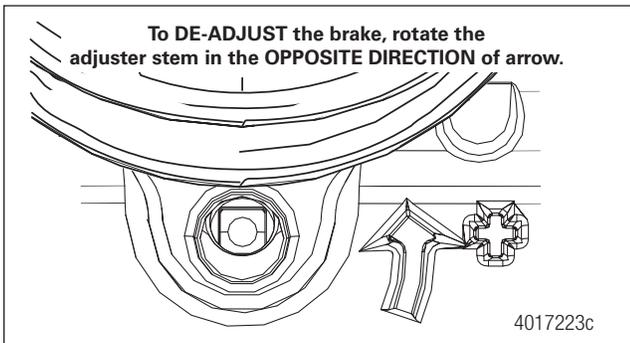
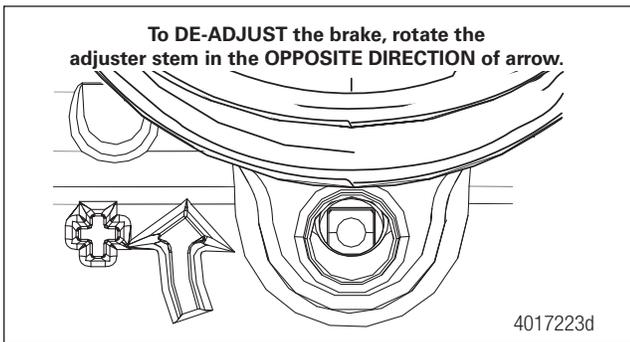
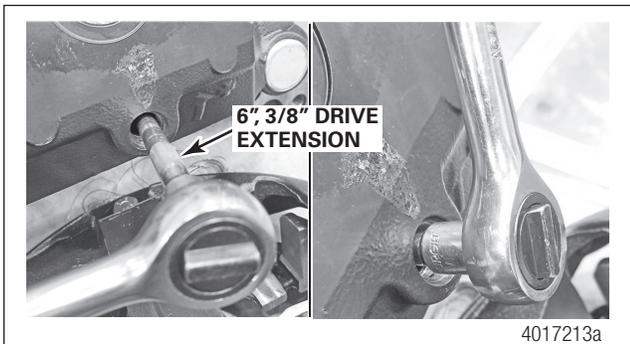

Fig. 6.2 Adjustment Arrow Cast into the Caliper Housing (RH)
Fig. 6.3 Adjustment Arrow Cast into the Caliper Housing (LH)
Fig. 6.4 Rotate Adjuster Stem using Wrench with 6" 3/8-Drive Extension
STEP 3 - Use a six-inch (6") standard 3/8" extension on a hand-held ratchet wrench to de-adjust the brake. Rotate the adjuster stem **IN THE OPPOSITE DIRECTION OF THE ARROW CAST INTO BACK OF HOUSING** until you feel the adjuster stem stop. De-adjustment requires more force than adjustment. Do not exceed 30 lb-ft (40 Nm) in either direction. Figure 6.2, Figure 6.3 and Figure 6.4.
When re-adjusting the brakes (rotating the adjustment mechanism IN THE DIRECTION OF ARROW CAST INTO BACK OF HOUSING), do NOT extend the piston beyond 3.75" (95 mm), from the stamped tappet plate to the outer face of the piston, or the piston can come completely out of the housing assembly. Figure 6.3. The brake housing assemblies do not have a travel stop feature to prevent the piston from over traveling. The risk of the piston rotating out of the housing assembly may be increased further if the caliper assembly is removed from the vehicle, or if the caliper assembly is left on the vehicle, but the rotor is in a worn condition. If the piston becomes disengaged from the threads, take care not to unseat the boot. Re-engage the threads and rotate the adjuster in the de-adjust direction to reseat the piston.